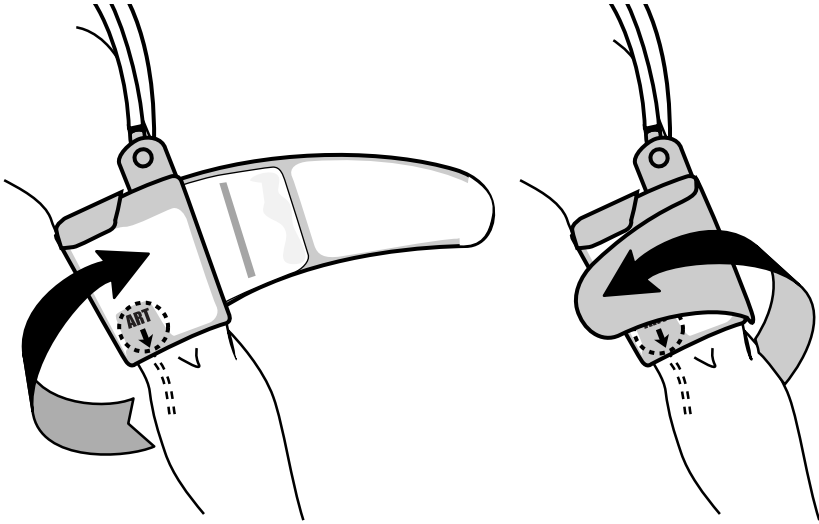

Fig 3 - Positioning the cuff
- Position the markings on the cuff (arrow and “ART”) opposite the artery and wind the cuff evenly around the arm (Fig 3).
- Place the electrodes as in figure 3.